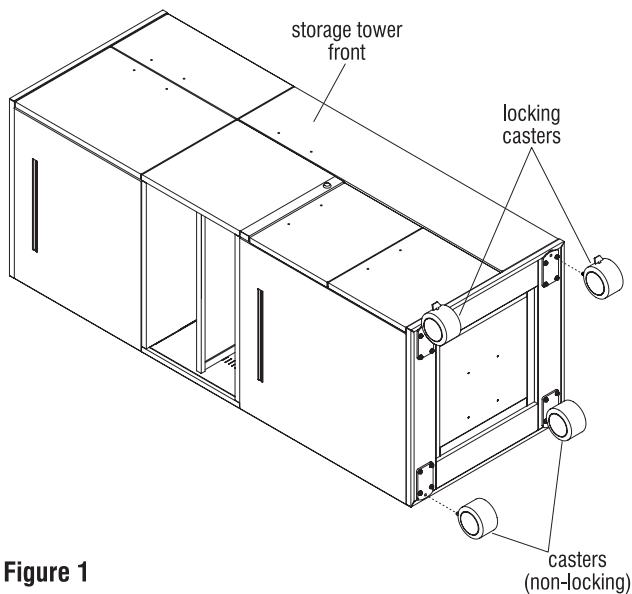

Figure 1
3. Thread the casters into the bottom of the storage tower. Locking casters must be positioned to the front of the tower as illustrated. Tighten the jamb-nut of each caster to the bottom of the cabinet with a wrench (Figure 1).
4. Gently raise the cabinet to it's upright position onto the casters (Figure 1).